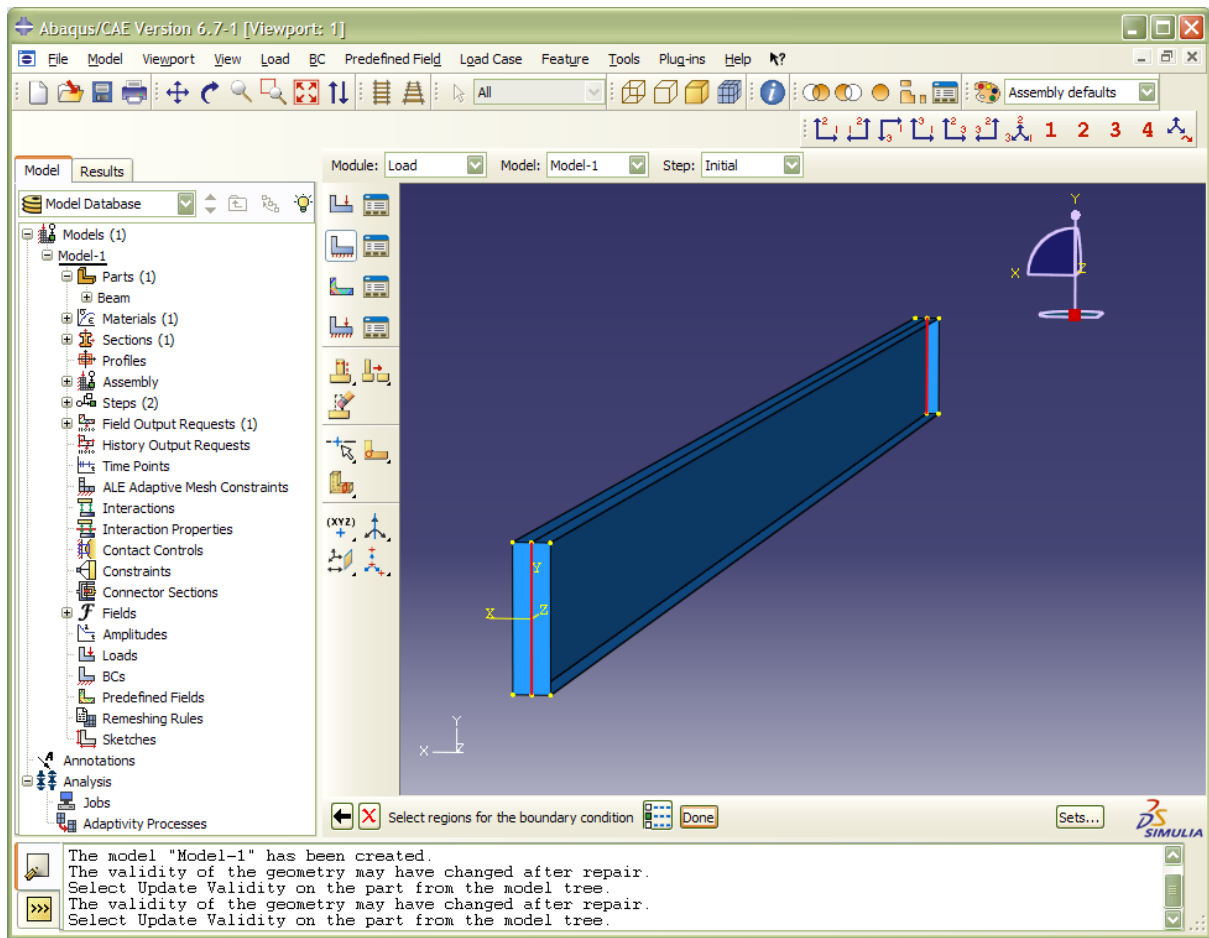

Figure 5 The midlines at both ends have been selected for application of supports in the x-direction.
- e. When the midlines at both ends have been highlighted as indicated in Figure 5, click **Done** in the prompt area.